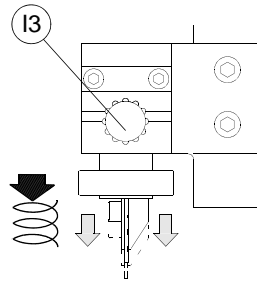

Fig. 14
- **To lock the tracer point spring:** push the tracer point all the way up and secure with the special knob (I3) (fig. 14). Use of the tracer point spring is recommended for the cutting of male and female bit/double bit keys.